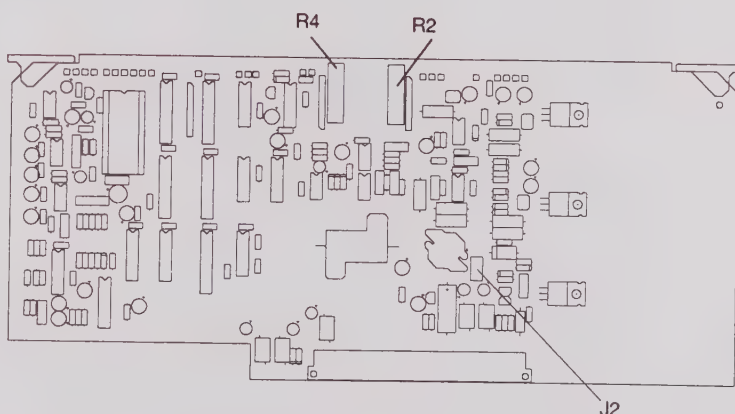

Figure 6-4. A5 PCB Adjustments
- ☐ Confirm that jumper J2 is positioned per table at left. (See Figure 6-4 for jumper location.)
- Adjust A5R4 (Figure 6-4) for a counter reading that is 200 MHz $\pm$ 10 MHz below the band start frequency of the model being tested (see table at left).
- Adjust A5R2 (Figure 6-4) for a counter reading that is 200 MHz $\pm$ 10 MHz above the band stop frequency of the unit. (These values are listed at left.)